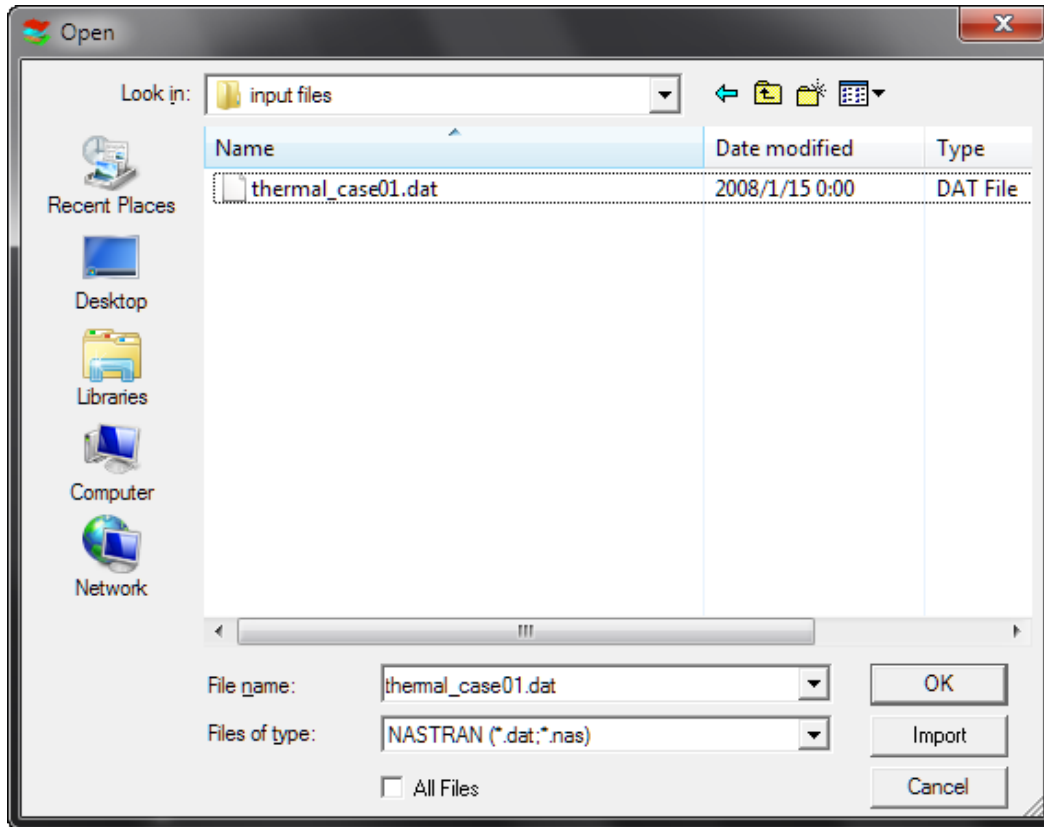

Figure 1
1. Click the menu **File/Import**: select the *thermal_case01.dat* file. (Figure 1).